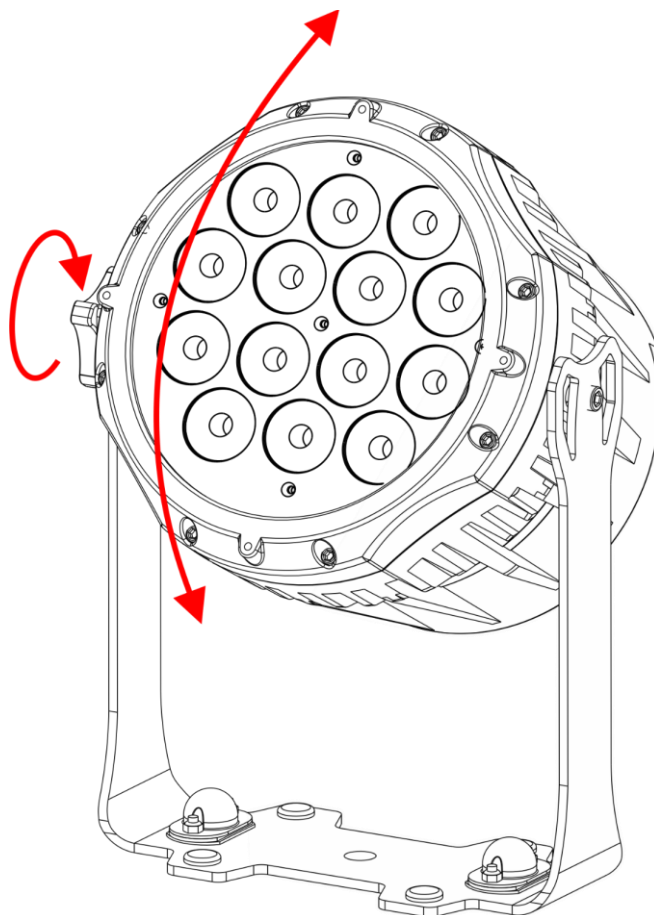

Fig. 06
- 03) Turn the **adjustment screw (03)** counterclockwise to release it.
- 04) Tilt the device to the desired angle (see Fig. 06).
- 05) Turn the **adjustment screw (03)** clockwise to tighten it. Make sure that the device cannot move freely after the **adjustment screw (03)** is tightened.